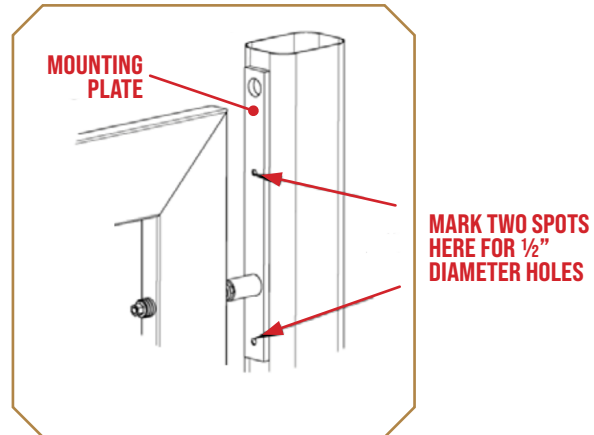

Figure 5
1. Using the mounting plate, mark two hole centers that are 9  $\frac{3}{8}$ " apart. Assure they are centered on the inside of the latch post (Figure 5).